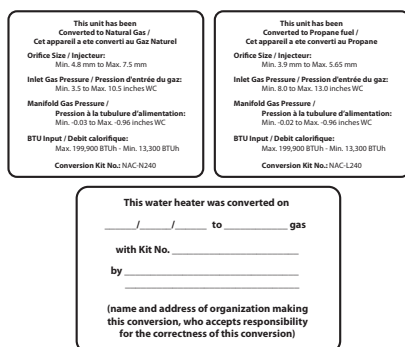

Figure 11. Proper Placement of Gas Conversion Labels
- Once the CO₂ or offset values have been confirmed, apply the included conversion stickers to show that the appliance has been converted to natural gas. Place this labels adjacent to the rating plate as shown in Figure 11.